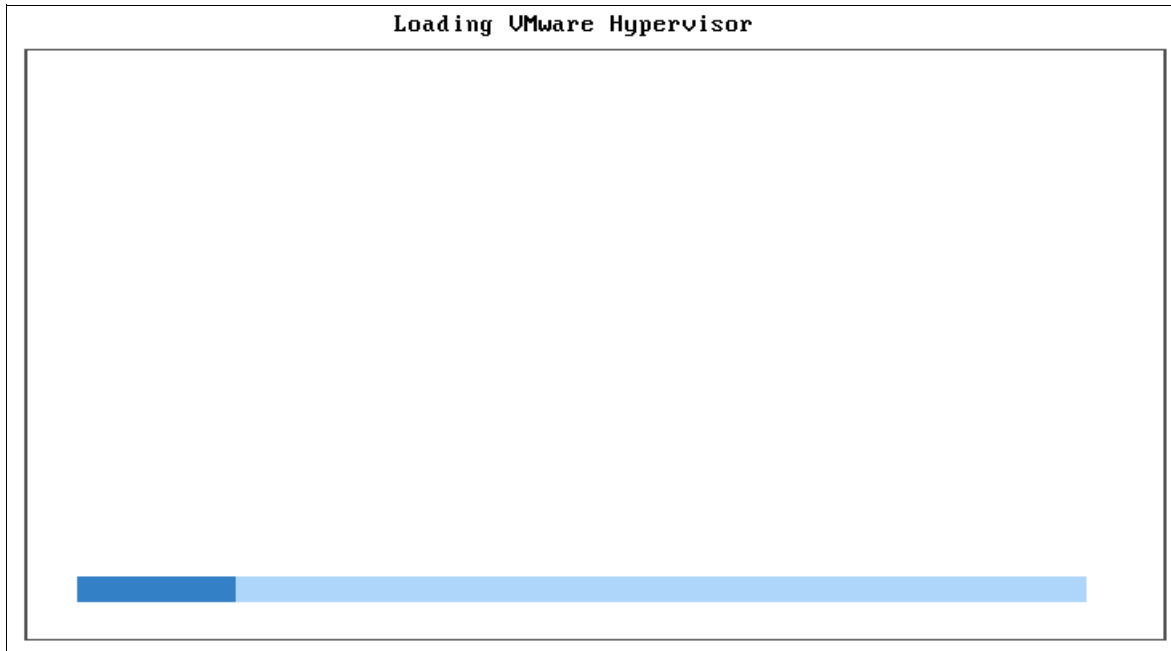

Figure 6-61 Loading VMware Hypervisor panel
11. In the Loading VMware Hypervisor panel, press Shift+O when the progress bar is displayed, as shown in Figure 6-61 on page 280.